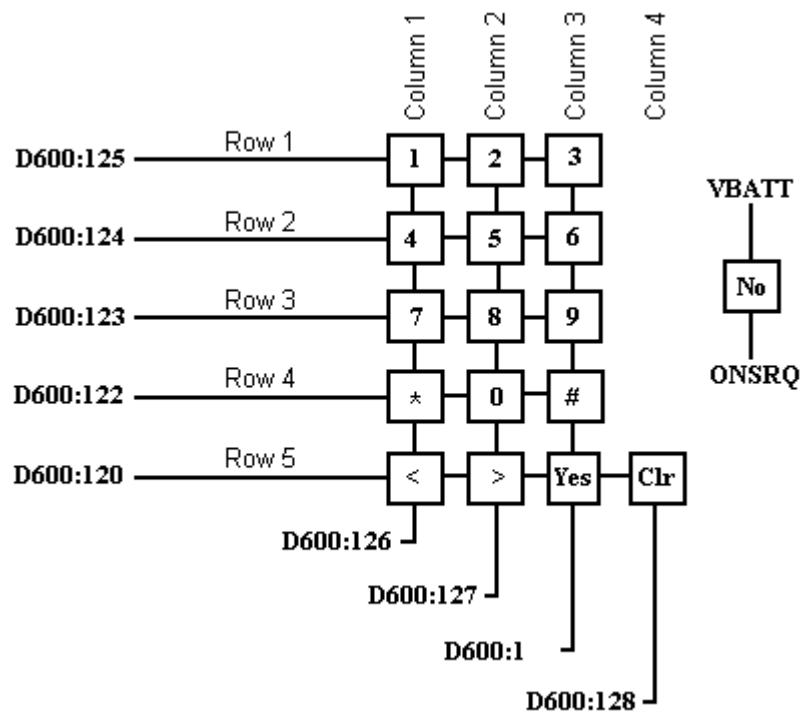

Fig. 8.1
- If a complete row or a complete column (according to fig. 8.1) is faulty, proceed to section 8.2.
Check the corresponding soldering at D600 (Fig. 8.1 and 8.2) for the faulty row/column.